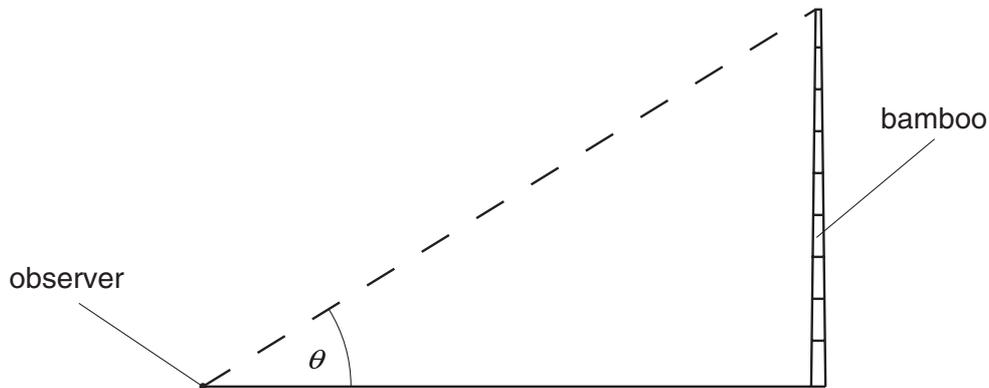

Fig. 2.3
- (c) Some bamboo for construction purposes is to be harvested when it is about 20 m tall. It is difficult to reach the top of the bamboo to measure its height. Instead, the approximate height of the bamboo is found by measuring the distance between the observer and the bamboo and by finding the angle  $\theta$ , Fig. 2.3.